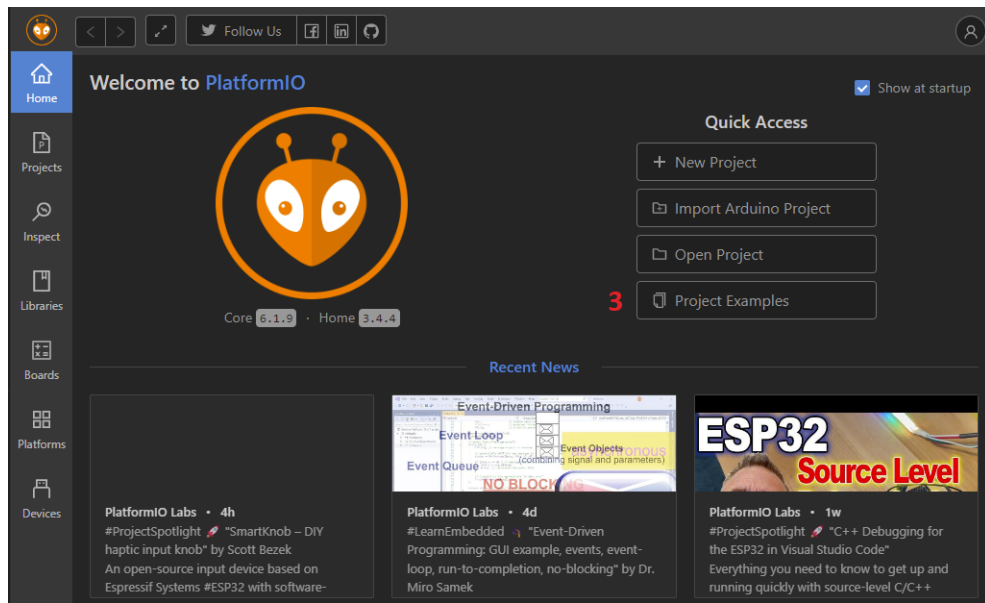

Figure 10. Project creation dialog
3. From the opened dialog click *Project Examples* (Figure 10).